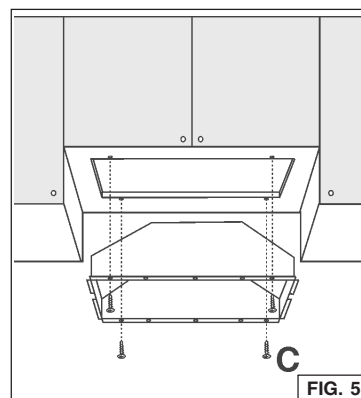

FIG. 5
6. Insert the hood in the cabinet and secure with the (4) "C" mounting screws 3.2x13mm (Fig. 5). For alternative side fixing use M4x15mm screws with washers and nuts.